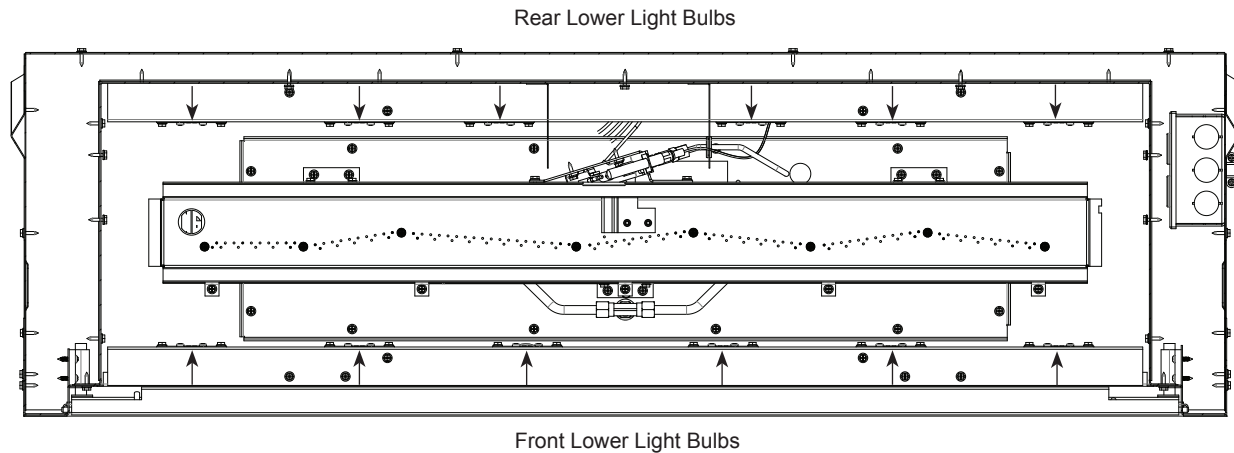

Figure 30 Lower Light Bulb Location
7. *Figure 30* shows bulb placement for front and rear light bars. Insert bulbs in sockets.